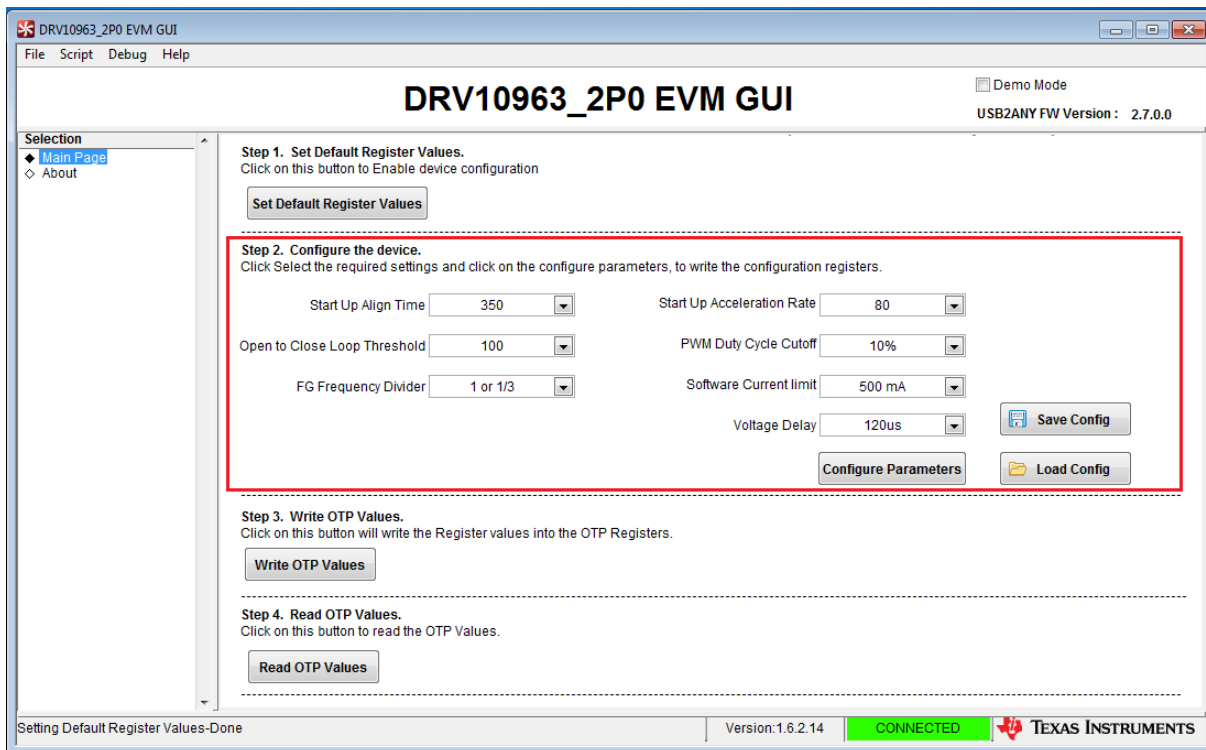

Figure 6. Default Configuration Parameters
- Left-click on the step 1 button "Set Default Resister Values". Step 1 is always mandatory before proceeding to step 2 to enable configuration of the device. This step programs the following parameters to the corresponding shadow register, as shown in Figure 6. These default values correspond to the factory programmed part DRV10963JJ. Refer to the DRV10963 datasheet for a detailed explanation of different versions of DRV10963 and descriptions of tunable parameters.